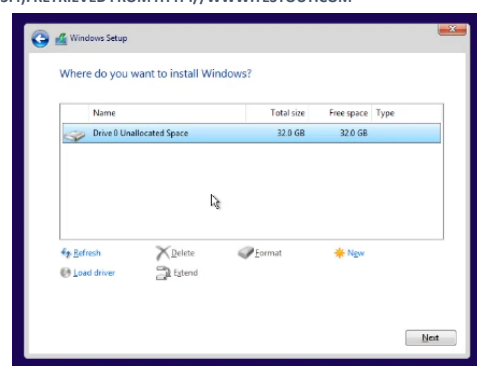

FIGURE 84: TESTOUT CORP. (2020, JANUARY 14). TESTOUT PC PRO (SECTION 10.3.4). RETRIEVED FROM [HTTP://WWW.TESTOUT.COM](http://www.testout.com)
11.3.6. (See Fig. 84) On the next screen, you will be asked where you want to install Windows. After this installation, we will be booting Windows 10 from the HDD, so find the HDD “Drive 0 Unallocated Space” among the options and select it. Then click the Next button. There will be a relatively long loading time for the next screen as Windows files get readied for installation. Do not power the system off or the installation may fail.